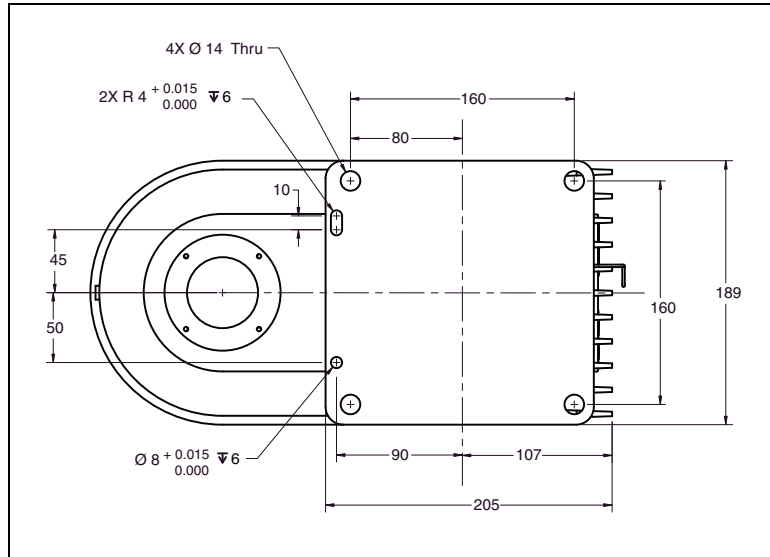

Figure 3-3. Robot Mounting Dimensions for eCobra Inverted Robot (Units in mm)
1. Using the dimensions shown in Figure 3-3. , drill and tap the mounting surface for four M12 - 1.75 x 36 mm (or 7/16 - 14 UNC x 1.50 in.) machine bolts (mounting hardware is user-supplied).